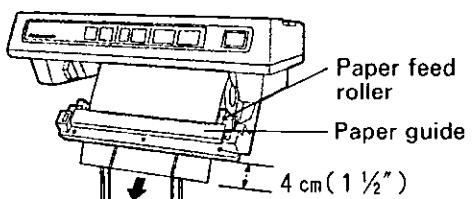

Fig. 3
(2) Pass the paper over the feed roller and under the paper guide, then through the printer slot about 4 cm (1 1/2 inches). (Fig. 3)